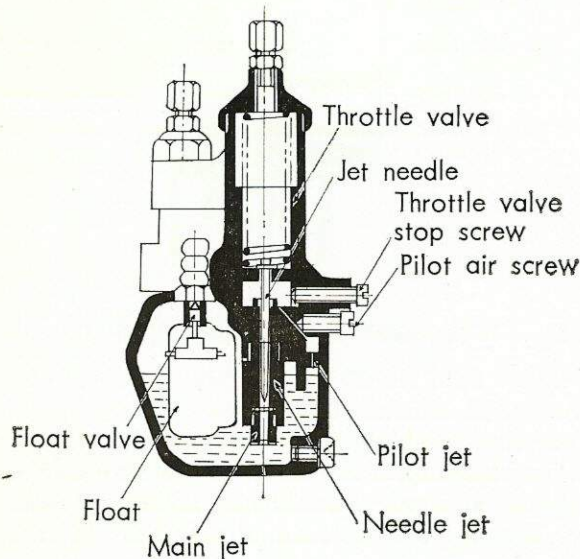

Fig. 11
When starting the engine or when the engine is idling the throttle valve (2) is in the undermost position, which is fixed by the throttle stop screw (7) (See Fig. 11). So, when a negative pressure is produced on the engine side, air is drawn in mainly through the air hole (8), which is provided for idle adjustment.